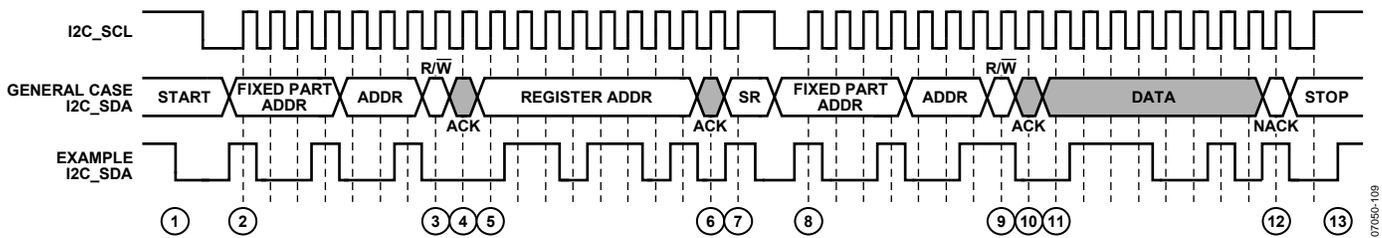

Figure 29. I2C Read Procedure
To read data from the AD8192 register set, an I2C master (such as a microcontroller) needs to send the appropriate control signals to the AD8192 slave device. The signals are controlled by the I2C master unless otherwise specified. For a diagram of the procedure, see Figure 29. The steps for a read procedure are as follows:
3. Send the write indicator bit (0).
9. Send the read indicator bit (1).
- a. Send a no acknowledge followed by a stop condition (while holding the I2C\_SCL line high, pull the SDA line high) and release control of the bus to end the transaction (shown in Figure 29).